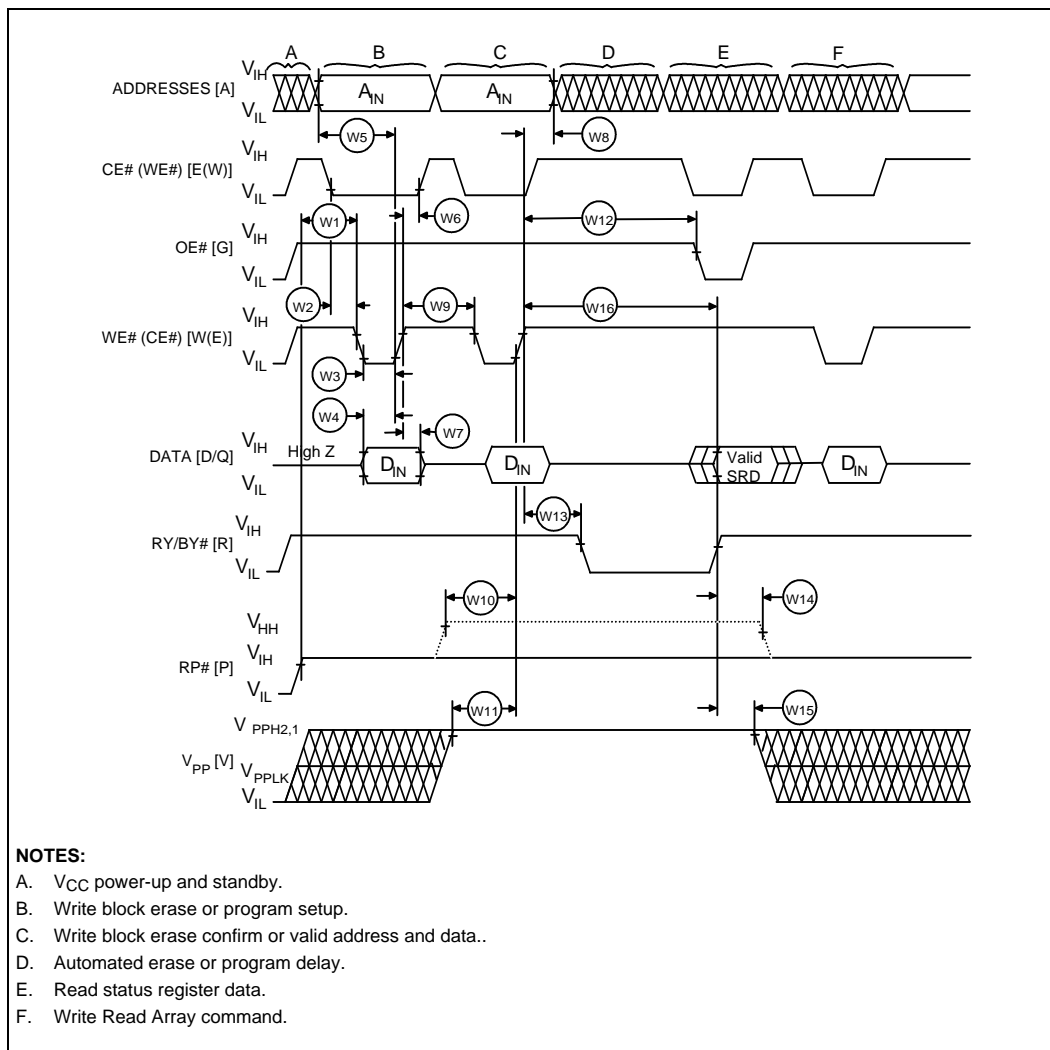

Figure 18. AC Waveform for Write Operations
5. Reference the *AC Waveform for Write Operations*, Figure 18.